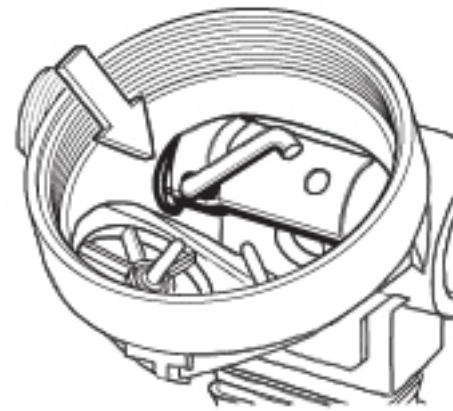

Figure 47 - O-ring bind-up
CAUTION: Do not apply undue force to press the valve body into place. Doing so may cause the O-ring (24) to bind up and become unseated, which may allow water to leak into the box bottom (see Figure 47). If bind-up occurs, remove the valve body and check to ensure that the O-ring has been dressed with a sufficient amount of lubricant.